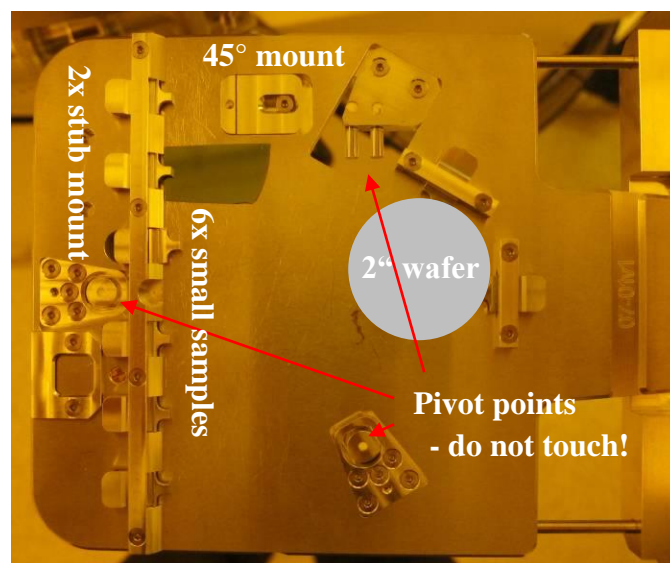

Figure 1: Sample holder for small samples and 2" wafers
- 3) Never touch the pivot points (see figure 1). They are calibrated so that the sample holder will fall into the same position inside the chamber every time to within a few micrometers.